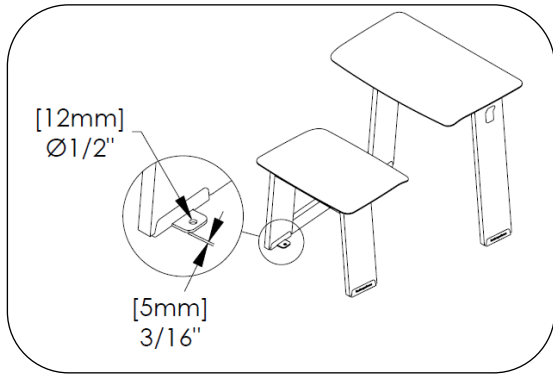

Fig. 1
3. Move unit back into position and install anchors (see Fig. 1).